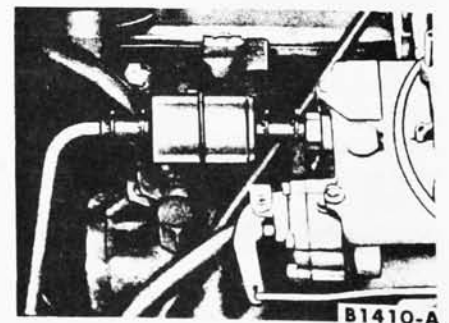

FIG. 16—Fuel Filter Installation
6. Replace Fuel Filter. Slide the clamps closest to the filter away from the filter (Fig. 16).